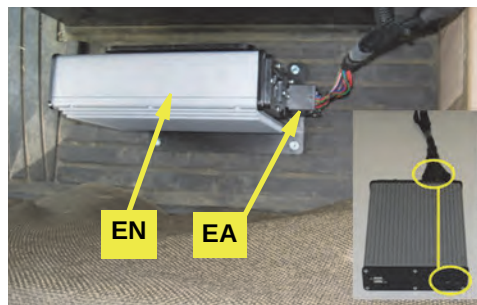

Figure 2a: Main cable connected to ECU
- a. Connect cable **EA** to the ECU **EN** using an Allen wrench to secure the cable. The **EA** connector will only fit the ECU socket that is in line with the power and communications indicators at the opposite end of the ECU (Figure 2a and inset).